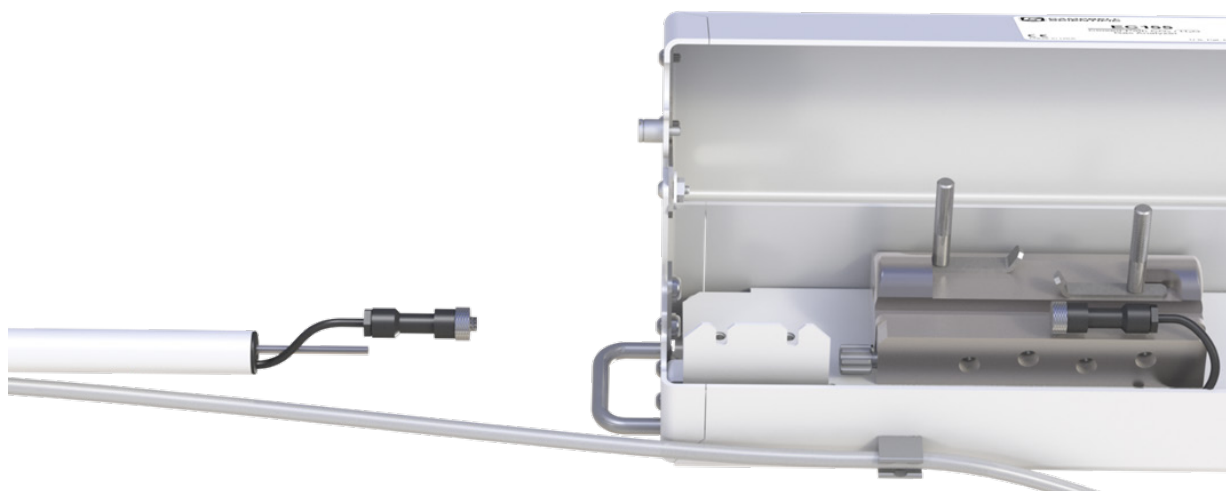

FIGURE C-2. Removal of the vortex intake
8. Carefully pull the intake away from the sample cell, sliding the stainless steel sample tubing from the sample cell. See FIGURE C-2.